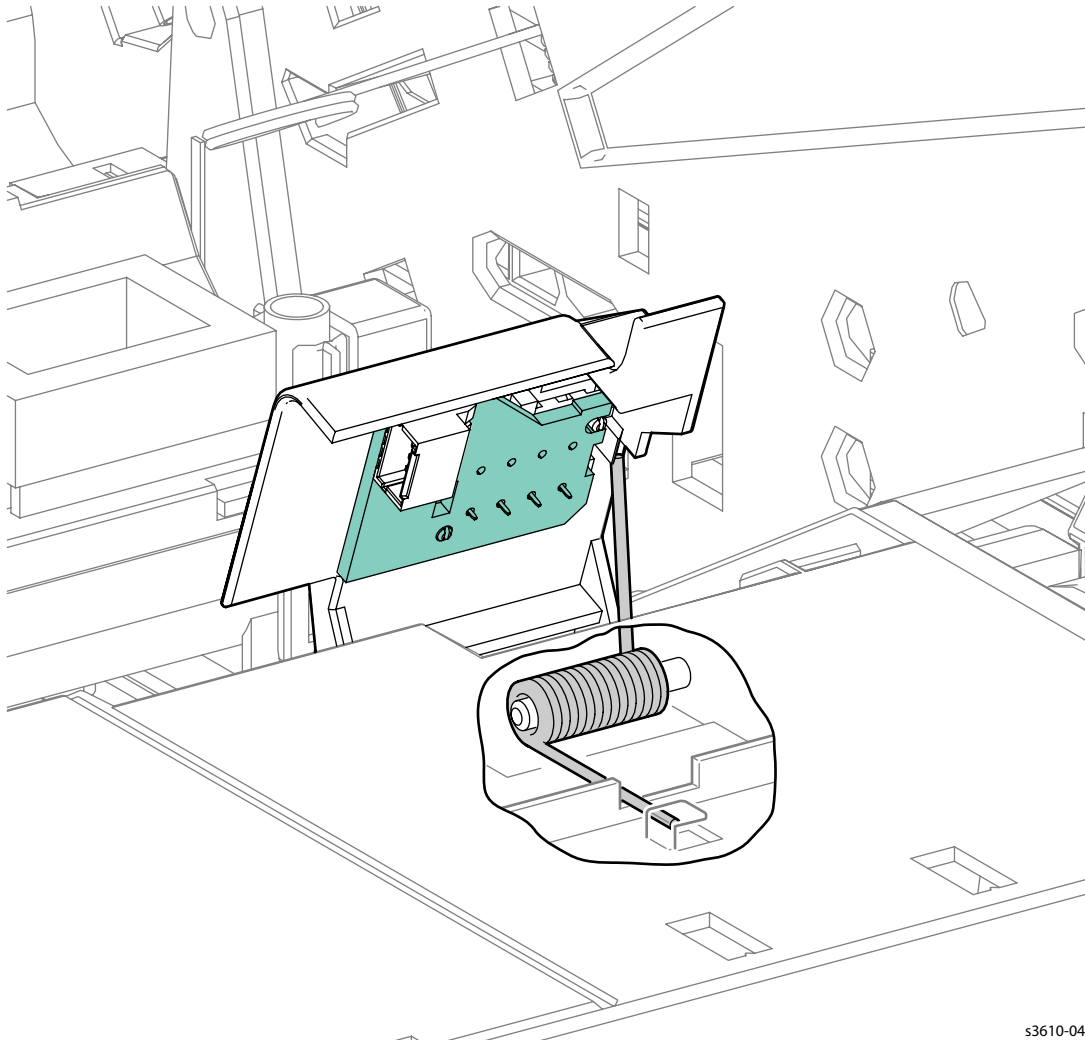

Figure 3
2. When closing the CRUM Housing, install the CRUM spring correctly. (Figure 3)